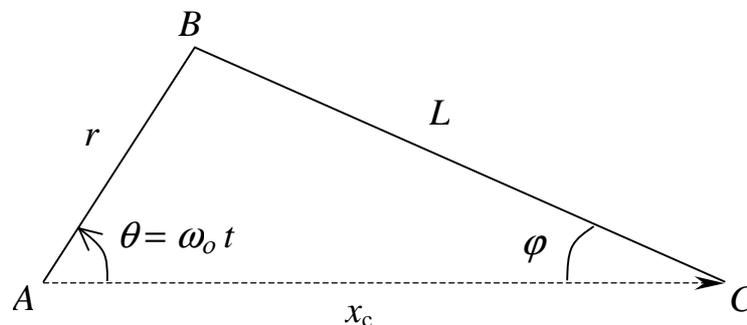

Figure 2. Geometry of Crank-Piston Assembly
3. Derive an expression for the acceleration of the piston as a function of time, $a_c(t)$, using the geometry in Figure 2, and determine the peak acceleration of the piston. Do not substitute numerical values for r and L .